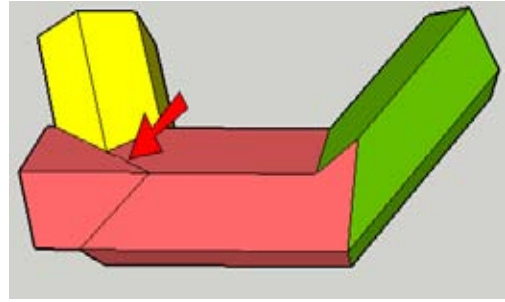

Figure 5-73
11. Add the line indicated in Figure 5-73.